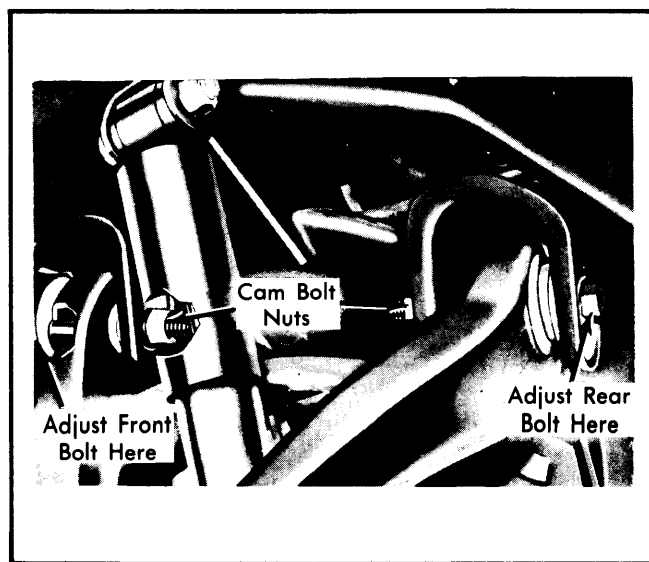

Fig. 34 Caster & Camber Adjusting Cams (Tornado)
Tornado – 1) Note camber reading before adjusting caster. Hold front cam bolt and loosen nut. Turn cam to obtain a change equal to $1/4$ of the desired caster change. See Fig. 34.
2) Hold cam bolt in this position while tightening nut to 110 ft. lbs. to maintain setting. Then, follow the same procedure with the other cam assembly. Caster setting then will not be affected. See Fig. 34.